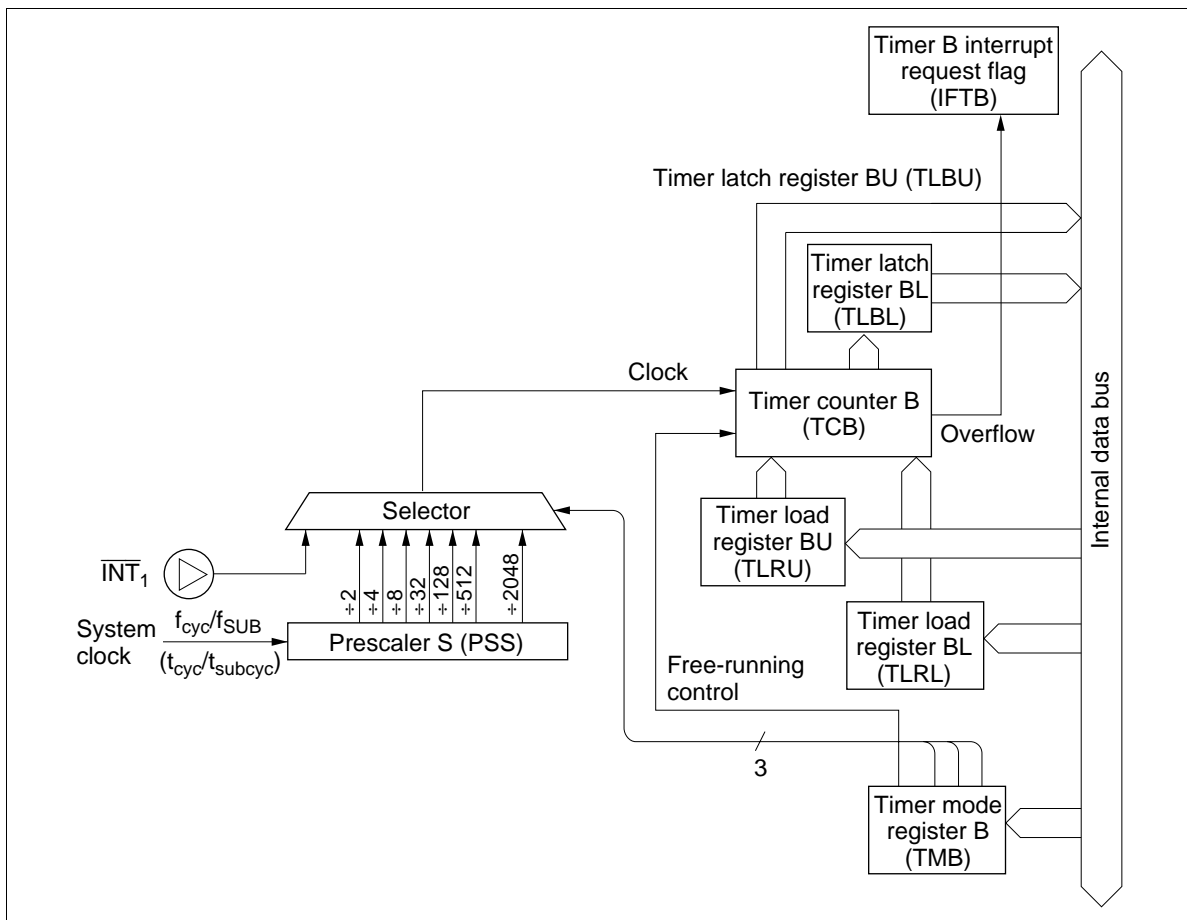

Figure 26 Timer B Block Diagram
**Timer B Operation:** Timer mode register B (TMB: \$009) selects the auto-reload function, input clock source, and prescaler divide ratio for timer B. When an external event input is used as an input clock signal to timer B, select  $R3_3/\overline{INT}_1$  as  $\overline{INT}_1$  by port mode register A (PMRA: \$004) to prevent an external interrupt request from occurring (figure 26)
**Timer B (TCBL: \$00A, TCBU: \$00B, TLRL: \$00A, TLRU: \$00B):** Timer B consists of an 8-bit write-only timer load register, and an 8-bit read-only timer counter. Each of them has low-order digits (TCBL: \$00A, TLRL: \$00A) and high-order digits (TCBU: \$00B, TLRU: \$00B). (Refer to figure 26.)